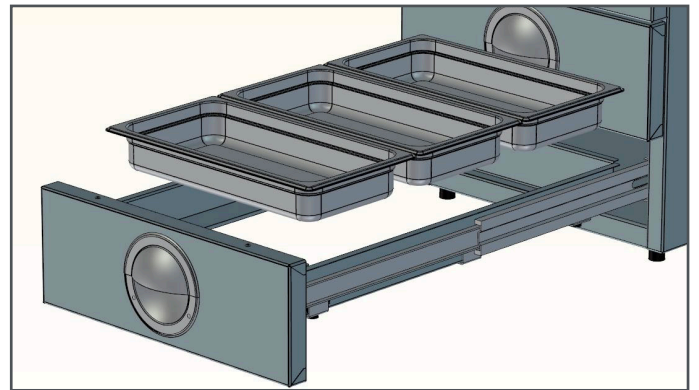

Fig 2 - Drawer removal detail
- (c) Remove the four thumbscrews on the underside of the drawer, see Fig. 2